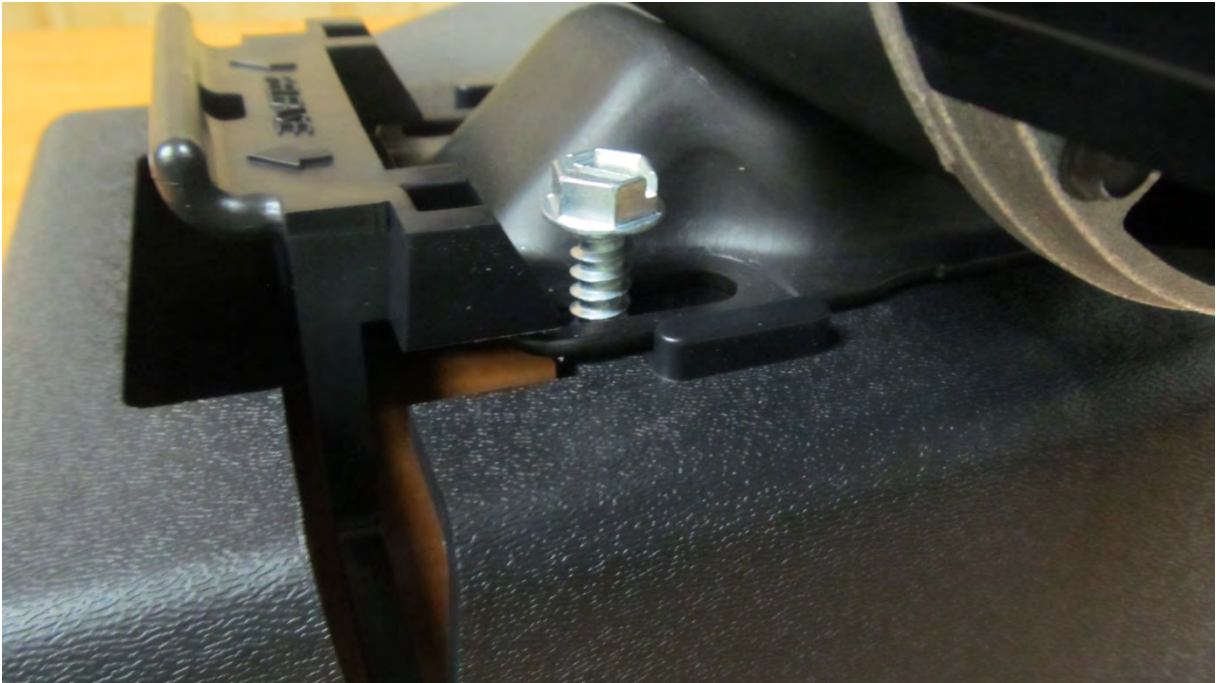

Figure 9
2. Secure the pump foot to the system base by inserting two (2) #20 x 1-1/4 long Lag screws through the slots in the pump foot into the corresponding holes in the system base next to the release latch (See Figure 9). Do not fully tighten the screw into the base at this time.